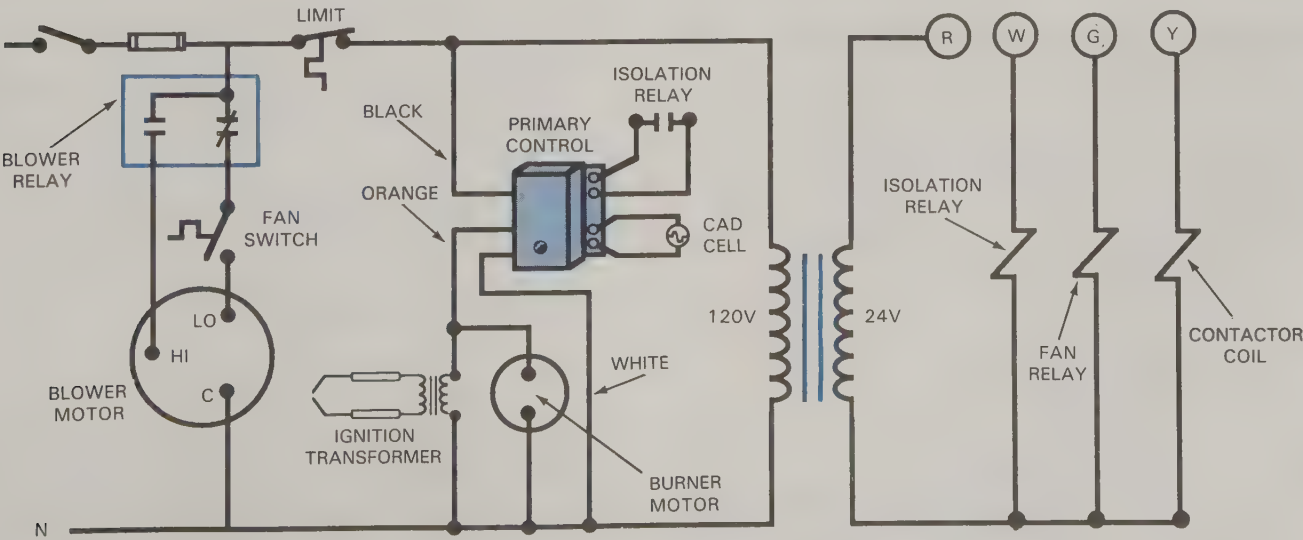

Fig. 26-27. A schematic of a typical oil furnace with air conditioning installed. A two-speed blower motor is used.
A *fan relay* is needed to operate the furnace blower motor during the cooling cycle. If the blower has a single-speed motor, only one contact (NO) is needed for the fan relay. If the blower has a two-speed motor, the fan relay has two sets of contacts (one NO, one NC). The NC contact is used for low speed (heating cycle) and the NO contact for high speed (cooling cycle). Fig. 26-27 is a schematic of a typical oil furnace with air conditioning and a two-speed blower motor.